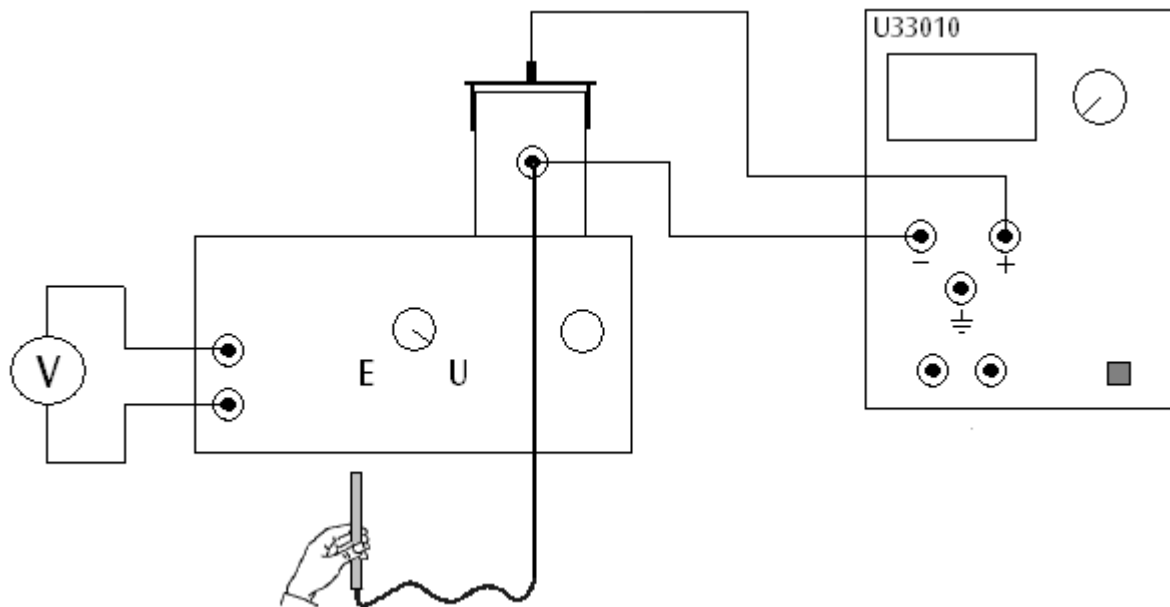

Fig. 3 Voltage measurement using the instrument as an induction electrometer
- Set up the experiment as shown in Fig. 3.